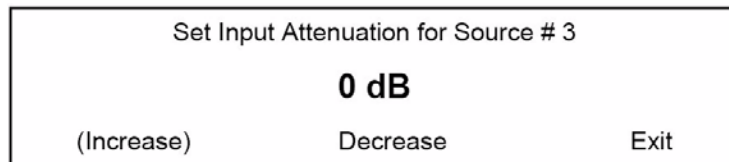

FIG. 32 Set Input Attenuation for Source # screen
3. Select a source (1-8) to be adjusted for input attenuation. This selection invokes the *Set Input Attenuation For Source #* screen (FIG. 32):